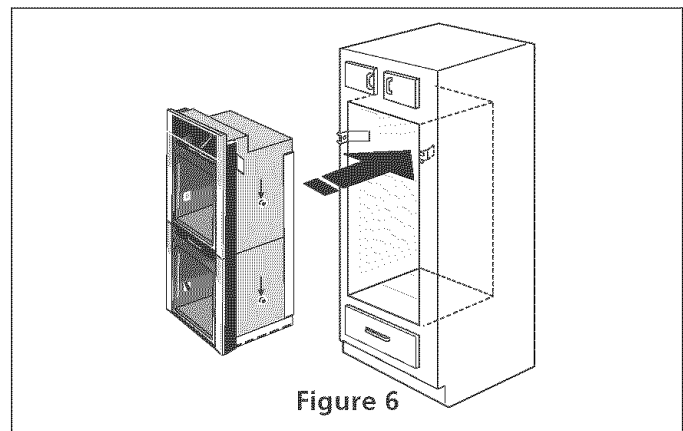

Figure 6
4. Push the unit in and against the cabinet, then the oven side bracket will clip in the one you just install on the side of the cabinet opening (see figure 6).